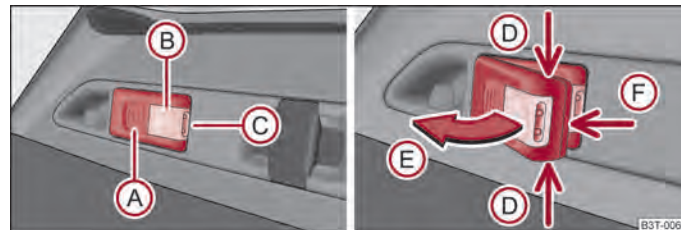

Fig. 46 Removeable lamp
- Lighting of the luggage compartment - it illuminates part **B** ⇒ fig. 46 (the lamp is in the holder),
- Grasp the lamp at the points of the arrows **D** ⇒ fig. 46 and swivel it in the direction of arrow **E**.
- If the lamp is not switched off, however it is correctly inserted in the holder, the bulbs in the front part **(C)** ⇒ fig. 46 of the lamp are automatically switched off.
- Lever off the cover of the rechargeable batteries with a narrow and pointed object at the point of the lock-off clips **(F)** ⇒ fig. 46.